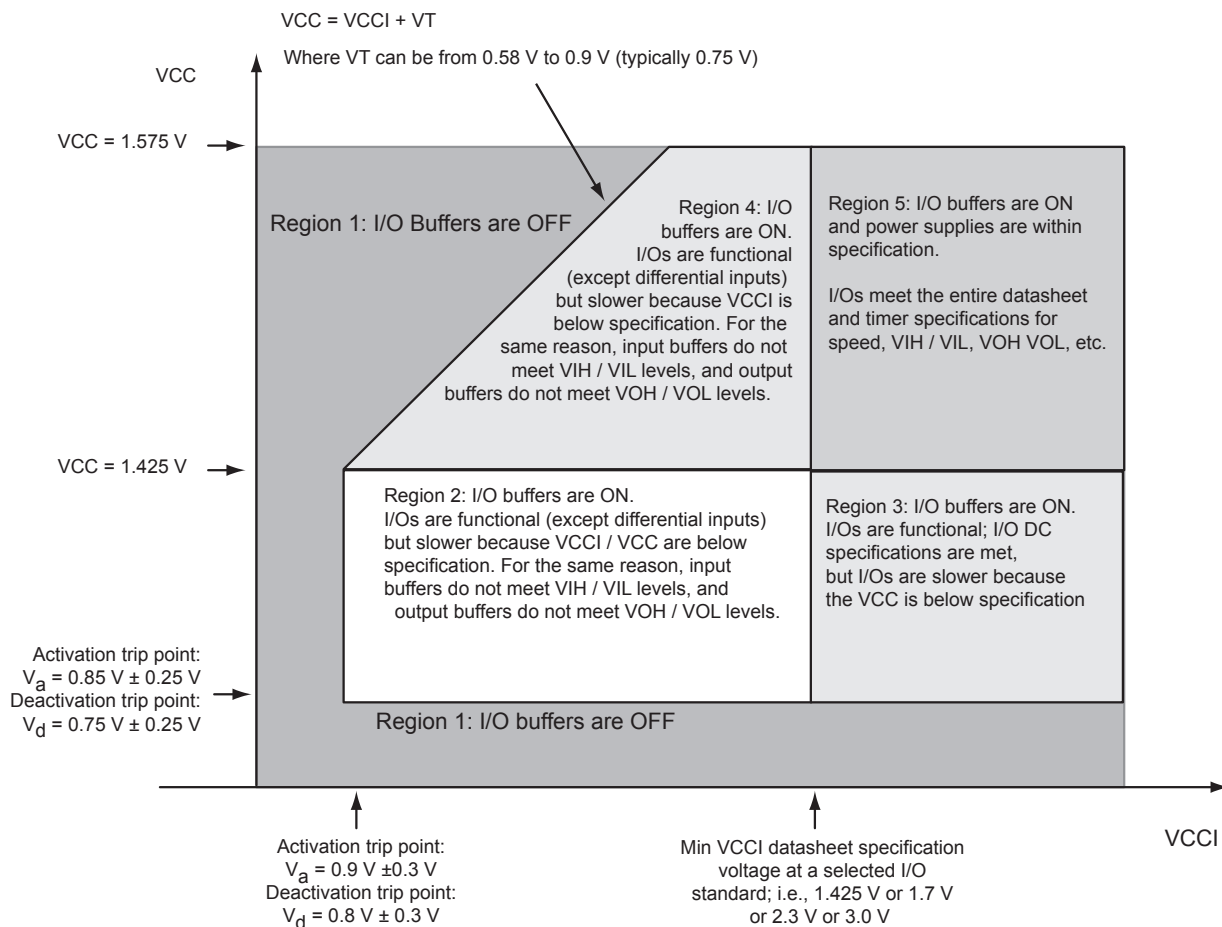

Figure 3-1 • I/O State as a Function of V_{CCI} and V_{CC} Voltage Levels
Sophisticated power-up management circuitry is designed into every Fusion device. These circuits ensure easy transition from the powered off state to the powered up state of the device. The many different supplies can power up in any sequence with minimized current spikes or surges. In addition, the I/O will be in a known state through the power-up sequence. The basic principle is shown in Figure 3-1 on page 3-6.
1. VCC and VCCI are above the minimum specified trip points (Figure 3-1).
Microsemi recommends using monotonic power supplies or voltage regulators to ensure proper power-up behavior. Power ramp-up should be monotonic at least until VCC and VCCPLX exceed brownout activation levels. The V_{CC} activation level is specified as 1.1 V worst-case (see Figure 3-1 on page 3-6 for more details).